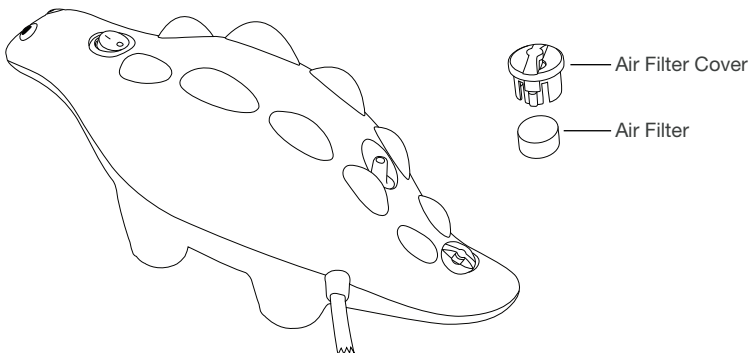

Figure 12
3. Changing procedure (Fig. 12):